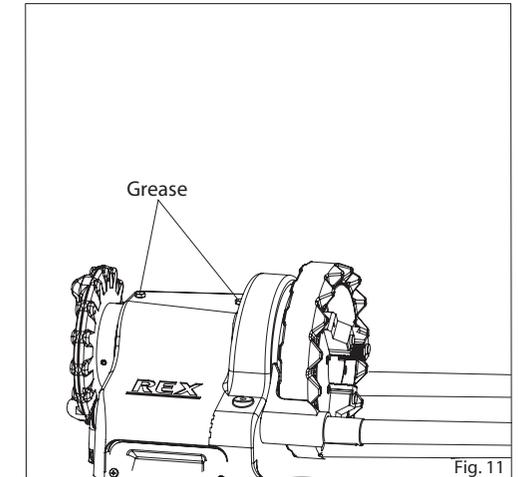

Fig. 11
1. Grease (Fig. 11)
Be sure to apply grease to the main shafts and bearings about once a the 3 months. (Fig. 11)